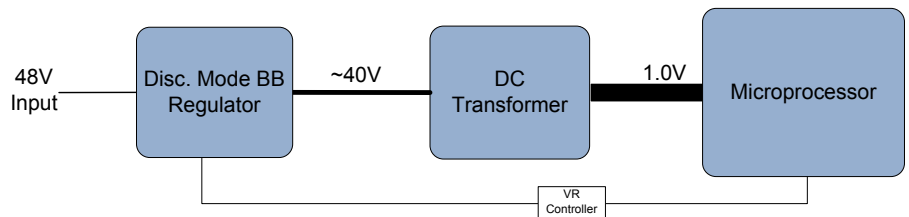

Figure 1. System block diagram.
**Figure 1** shows an example of how the amplifier's closed-loop gain affects the system's overall bandwidth. The GBWP of this amplifier is 20 MHz. The amplifier's closed-loop gain is 10V/V, or 20 dB. In our circuit, we already require an amplifier that has a bandwidth that is 10 times higher than our input signal. You can see this by comparing the intersect of the closed-loop gain ( $f_{3\text{dB}}$ ) with the amplifier GBWP frequency ( $f_{\text{GBWP}}$ ).
The amplifier characteristics shown in **Figure 1** appear to be a perfect fit, but we are looking for the correct amplifier
**Figure 1** The system bandwidth becomes lower due to the closed-loop ( $A_{\text{CL}}$ ) intercept point with the amplifier's open-loop gain ( $A_{\text{OL}}$ ) and the need to accommodate bit accuracy across the entire frequency range at  $f_1$ .
Figure 1 divides the overall converter
sources when necessary for analysis). In the system depicted in Figure 1, the discontinuous-conduction-mode buck-boost converter has a load pole at